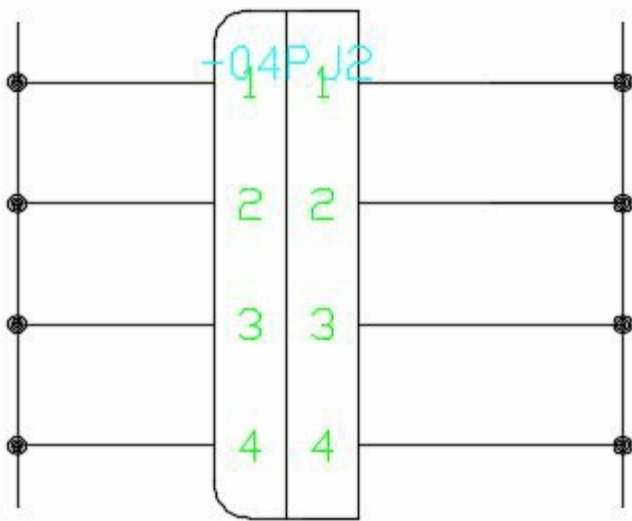

Figure-37. After increasing size of annotations
- After increasing the size of annotations, the drawing will be displayed as shown in Figure-37.